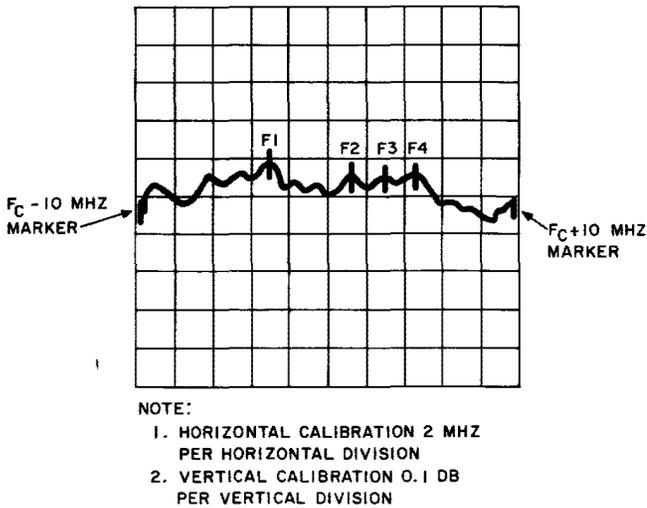

Fig. 7—Typical Oscilloscope Presentation for Antenna Return Loss
3.04 This sample calculation is based upon a typical oscilloscope presentation, Fig. 7, of a return-loss test on a TD-3 radio receiving antenna and waveguide run with a vertically polarized signal. The test is made on the radio bay closest to the waveguide run to the antenna. The waveguide run consists of 100 feet of rectangular waveguide (WR229) and 100 feet of circular waveguide (WC281). For this example, two points of reflection (represented by F1-F2 and F3-F4) have been used. These points of reflection have been represented by points A (F1-F2) and B (F3-F4) in Fig. 5 and 6. The oscilloscope has been set up to give a horizontal spacing of 2 MHz per horizontal division and vertical
- (a) Determine the frequency spacing between peaks of each ripple component by using Fig. 7.
- (b) Determine the peak-to-peak amplitude of each individual ripple component by using Fig. 7.